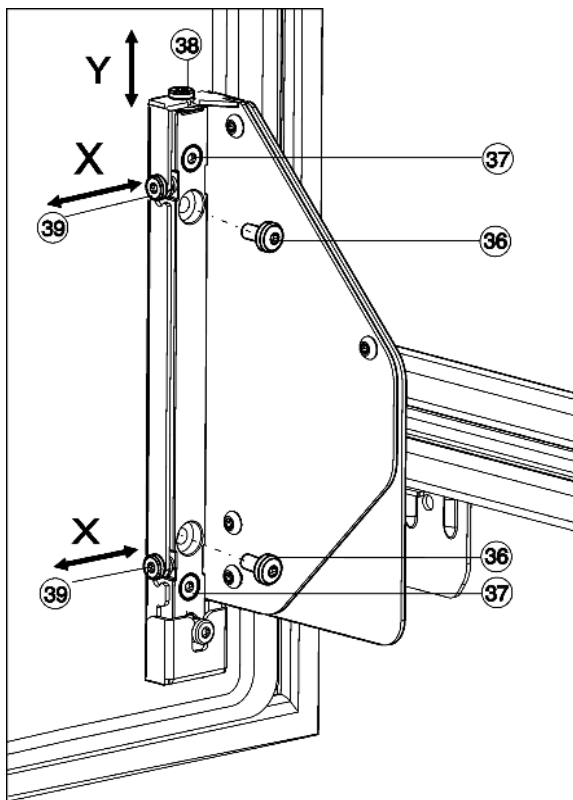

Fig. 31
- ▶ Fully screw out the screws *Fig. 31 (36)*.
- ▷ Dispose of the screws *Fig. 31 (36)* as they will no longer be needed.
- ▶ Only loosen the screws *Fig. 31 (37)* with 1 to 2 turns.
- ▶ Turn the adjusting screw *Fig. 31 (38)*. In a clockwise direction: the door moves max. 4 mm upwards. In an anticlockwise direction: the door moves max. 2 mm downwards.
- ▶ Retighten all screws *Fig. 31 (37)*.
- ▶ If the screws *Fig. 31 (36)* are still present, unscrew them fully.
- ▶ Adjust the adjusting screws *Fig. 31 (39)* according to the desired lateral adjustment direction.
- ▶ Retighten the screws *Fig. 31 (37)* after the lateral adjustment is complete.